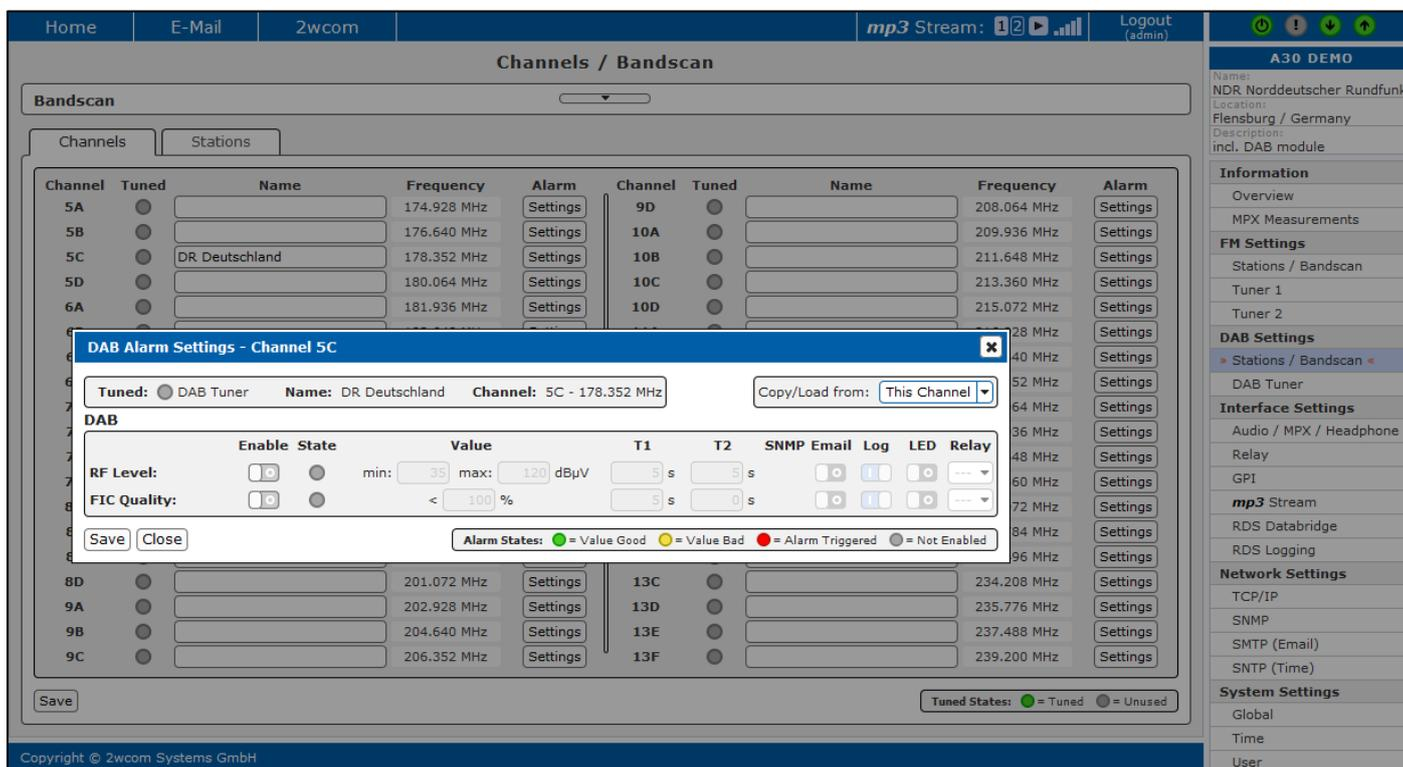

Fig. 32: Alarm Settings – DAB Channel
- ⇒ "Alarm Settings" menu for the selected DAB Channel appears (see Fig. 32).
4. Enable each alarm function separately in the corresponding checkbox "Enabled", if this parameter should be monitored (see Fig. 32).